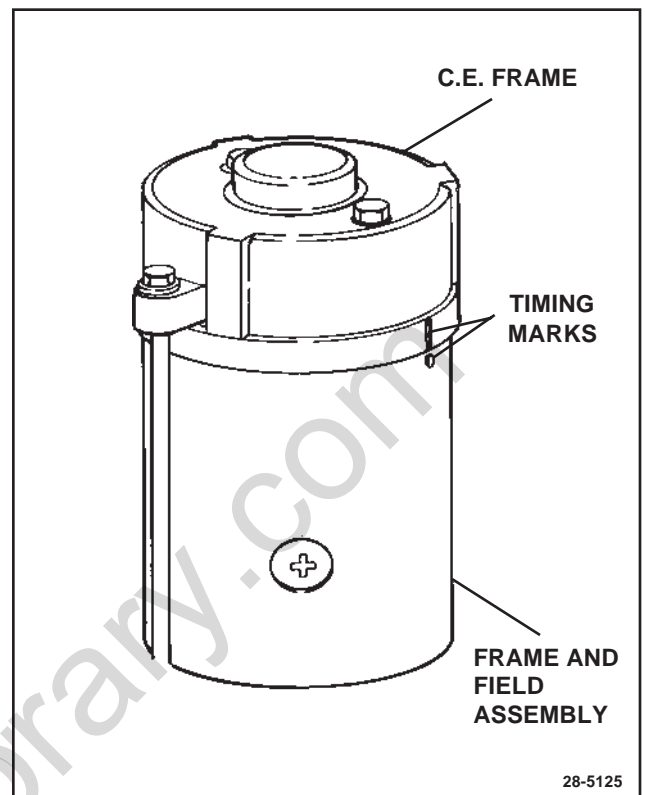

Figure 18. Aligning Timing Marks
8. Thru bolts (41).
- Install thru bolts and tighten by hand but do not close gap between C.E. frame and frame and field assembly where O-ring (20) goes.
- Roll O-ring (20) back down into its installed position between C.E. frame and frame and field assembly.
- Align timing ribs on edge of C.E. frame (14) with timing spots on frame and field assembly (A) to assure proper brush alignment. Refer to Figure 18. Marks are located in 2 places on motor but will only match one way.